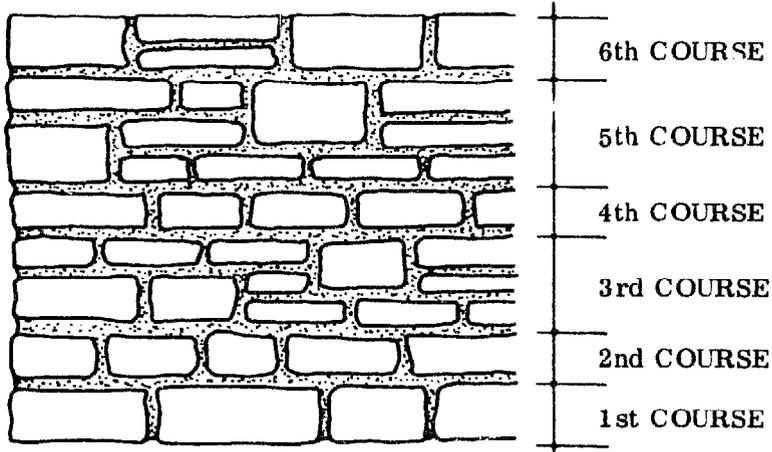

Fig. 1 BROKEN RANGE MASONRY
- BROKEN RANGE MASONRY: The stones of this masonry are accurately shaped with the club hammer and cold chisel (Reference Book, page 15) so that all the faces are square to each other. The bond should not contain joints more than 3 cm thick. The height of the stones may vary within a course, and the height of the courses may also vary, with the result that the courses are continuous for only short distances (Fig. 1).